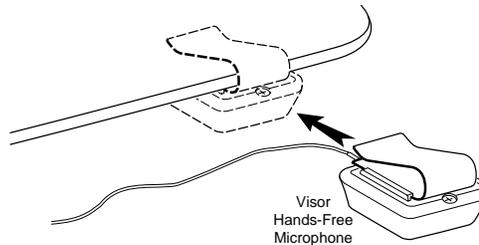

Figure 3 Installing the Visor Microphone
1. Referring to Figure 3, clip the microphone to the vehicle's visor.